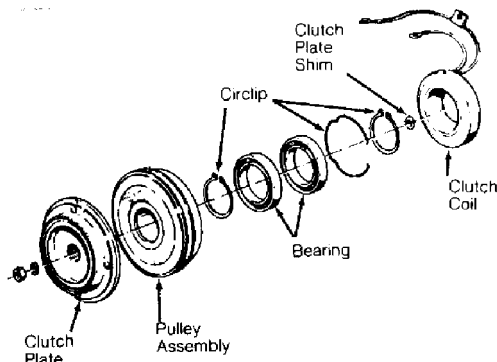

Fig. 2: Bosch 6-Cylinder Compressor Clutch
2) Using a feeler gauge, check clutch plate-to-pulley clearance. Clearance should be .028-.051" (.7-1.3 mm). If clearance is not correct, remove clutch plate and replace clutch plate shim. See Fig. 2.